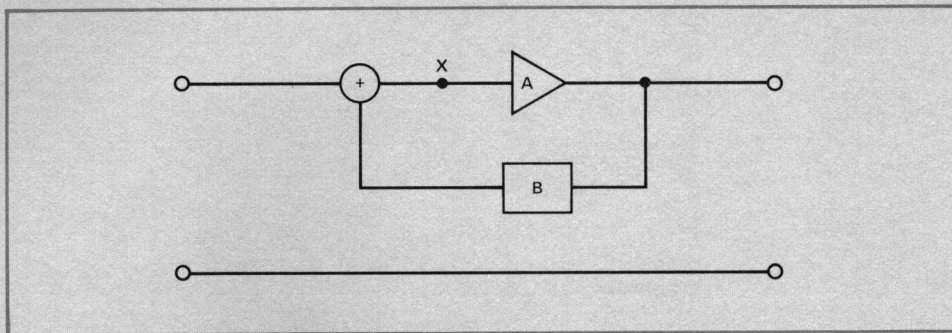
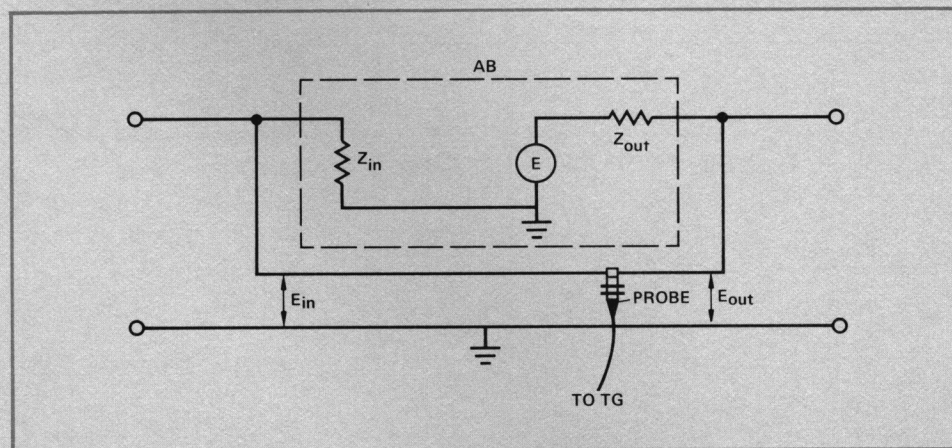

Figure 42. Simplified Feedback Block Diagram.
Figure 43. Equivalent Circuit of Feedback Loop Shown in Figure 42 ($Z_{out} \ll Z_{in}$).
Figure 42 is a simplified block diagram for a standard feedback circuit. From this diagram, we can see that the feedback loop gain is equal to AB . Figure 43 is an equivalent circuit of the same feedback circuit when the loop is broken at point X.
If $Z_{out} \ll Z_{in}$, connect the tracking generator output through the 1110A current probe and clip the probe around a lead in the feedback circuit where the signal is confined to a single path, as shown in Figure 43. Loop gain (AB) for this circuit is